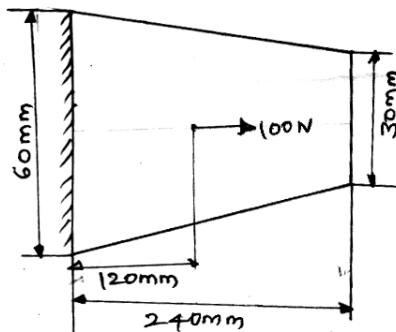

Fig 6.b
- b. Determine the nodal displacement, stress in each element and reaction at fixed support for thin plate uniform thickness of 1 mm as shown in Fig. 6.b take $E = 200 \text{ GPa}$. Weight density of the plate $\rho = 76.6 \times 10^{-6} \text{ N/mm}^2$. In addition to its weight it is subjected to point load of 100 N at its mid point. Model the plate with two bar element.